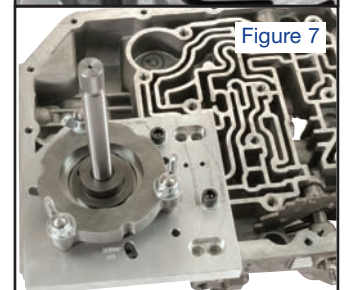

Figure 7
2. Install the reamer guide (labeled **S-SERVO-RJ**) into the inner race of the **SERVO-FIX** (see Figure 7). Install the guide pin through the reamer guide and into the servo pin bore. The pin should slide smoothly with no binding.